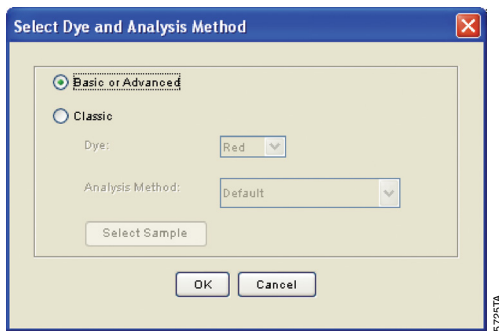

Figure 11. The 'Select Dye and Analysis Method' window.
4. Select **Basic or Advanced** (Figure 11). The type of analysis method selected must match the type of analysis method created earlier. Select **OK**.